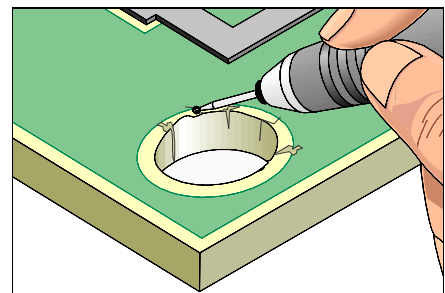

Figure 1: Mill away damaged material with the Micro-Drill and ball mill.
2. Mill away the damaged board base material using the Micro-Drill and ball mill. All damaged base board material and solder mask must be removed. No fibers of laminate material should be exposed at the surface perimeter of the hole. (See Figure 1).